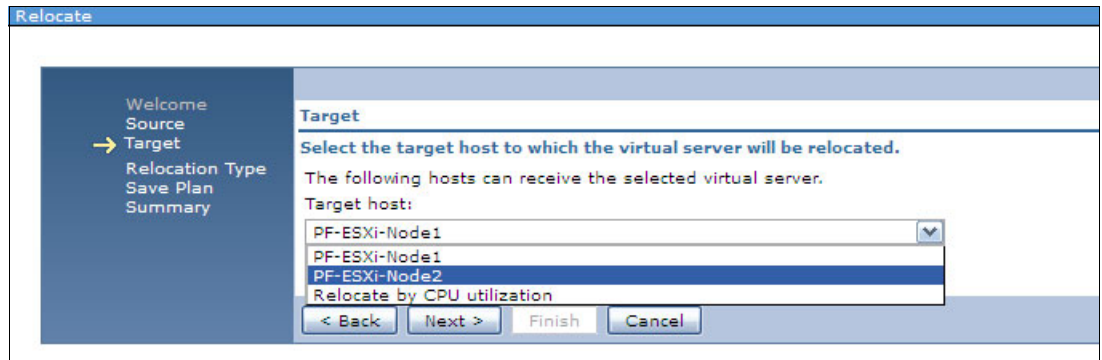

Figure 11-26 Relocate Target window
3. Select the target host for the virtual machine. You can also select “Relocate by CPU utilization” if you want the virtual server to be moved to the host with the lowest processor utilization. Select **PF-ESXi-Node2**, as shown in Figure 11-26.